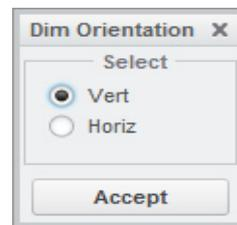

*Figure 3-1 The Dimension group*
1. Choose the **Baseline** tool from the **Dimension** group, refer to Figure 3-1.